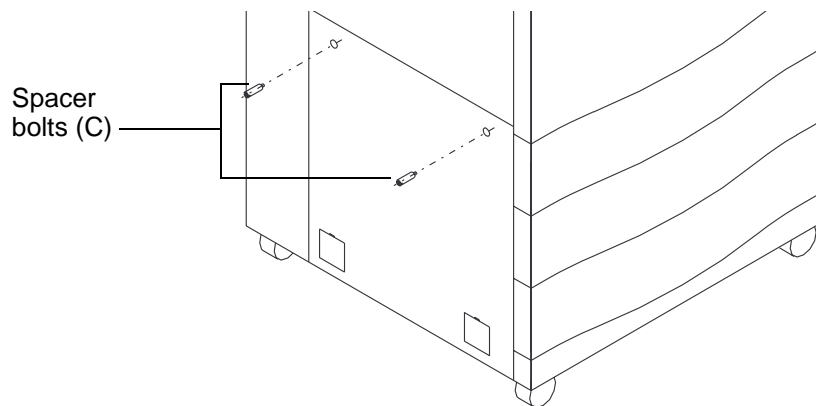

Figure 16 Inserting spacer bolts (C)
Step 8 Insert two spacer bolts (C) into the lower cover holes (where the screws were). See Figure 16.